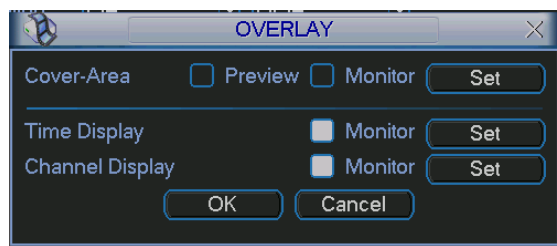

Figure 6-19
- Overlay: Click overlay button, you can see an interface is shown in Figure 6-19.